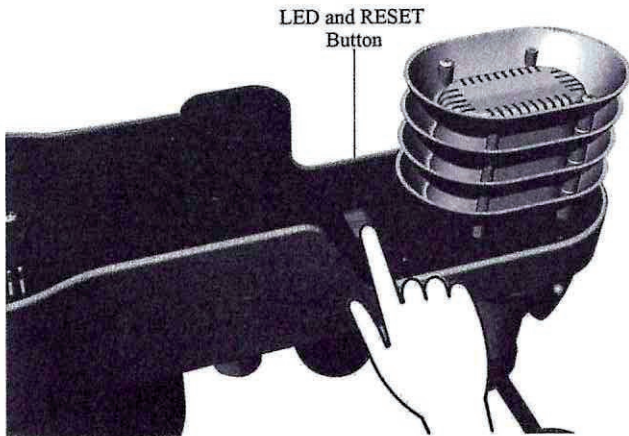

Figure 6
**Note:** If the sensor does not power up after inserting the batteries, press the reset button as shown in Figure 6.